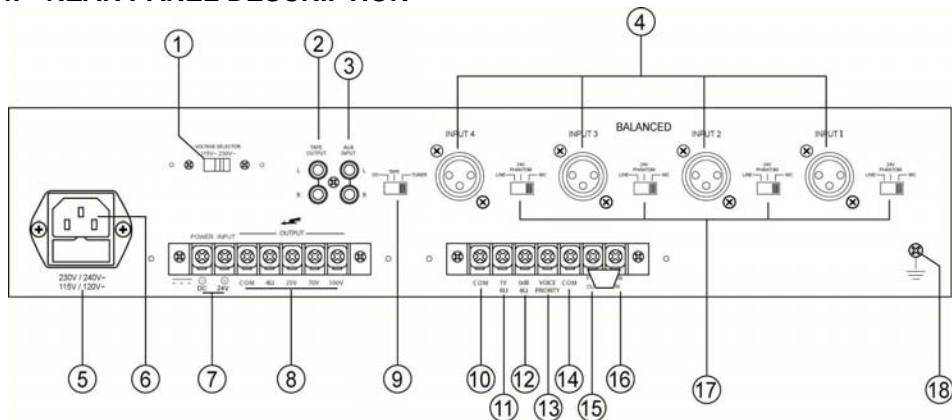

fig.2
- INPUT1, INPUT2, INPUT3, and INPUT4 have a balanced XLR connector, useful to connect both low impedance microphones (30-600 Ω), both condenser microphones with 24V phantom power supply, both line level audio sources (i.e. AM/FM tuner, cassette deck, CD player, etc.). **To choose the source to be connected, please use the following selectors position (fig. 2 ref. 17): LINE position for AM/FM tuner, CD player, Cassette deck etc., MIC position for low-impedance dynamic microphones and PHANTOM position for condenser microphones.** INPUT1 is provided of VOX feature, when a signal is detected, this input signal has priority over all the other inputs, excluding all the other input signals. In this way only INPUT1 audio signal is amplified.
This IEC socket is intended to connect AC linecord to the AC outlet (**fig. 2 ref. 6**).
Before connecting the AC linecord to the unit, please control that AC power selector (**fig. 2 ref. 1**) matches the outlet AC power.
To access to the speaker connection terminals (**fig. 2 ref. 8**) remove the protection cover unscrewing the screws.
- The connection is made using terminals on unit rear panel (**fig. 2 ref. 11**).
It allows the connection of blended INPUT4 and AUX INPUT signals to any external device (**fig. 2 ref. 12**).
If AC power outlet is not provided with grounding or polarization connection, this terminal allows hardware unit parts grounding (**fig.2 ref. 18**).
Please refer to **fig.2: 10) Common terminal for outputs 11) and 12)**
When PRIORITY and COM (**fig.2 ref. 13**) terminals are in short-circuit, INPUT 4 and AUX INPUT are automatically deactivated leaving priority to INPUT1, INPUT2 and INPUT3 signals.